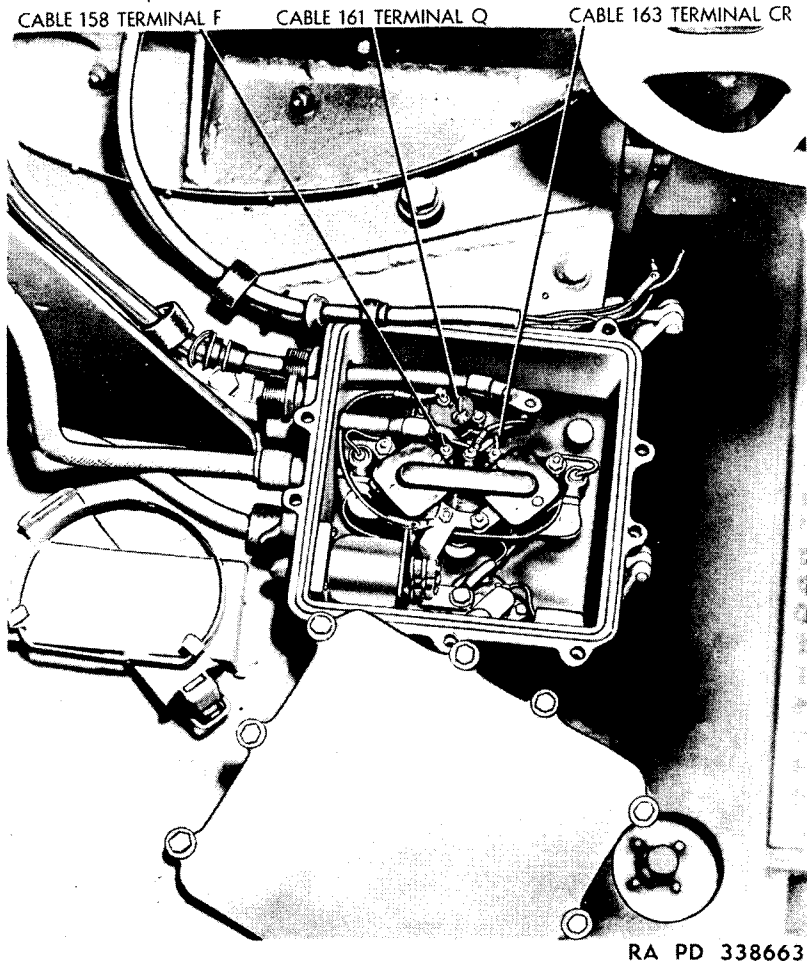

Figure 76. Electric control cables disconnected (M41).
c. DISCONNECT HOWITZER ELEVATING ELECTRICAL CABLES. Throw safety switch on howitzer elevating control relay box, and master switch in driver's compartment to OFF position, loosen 10 screws, and remove the cover from the relay box located on the left side of the bottom carriage (fig. 75). Disconnect the three cables running from the electric elevating mechanism to the elevating control relay box, taking precaution to properly identify the wires and terminals for reassembly (fig. 76).
e. **ELEVATING CONTROL RELAY BOX.** Assemble the cables to their proper terminals in the elevating control relay box, marked for identification at disassembly (fig. 76). Assemble cover and rubber gasket to the box, and tighten the ten cap screws. After connections to the battery have been made, turn on the master switch, located on the box. Check the operations of the electric elevating mechanism by raising and lowering the howitzer with the electric elevating mechanism. Throw switch on control relay box to "OFF" position.